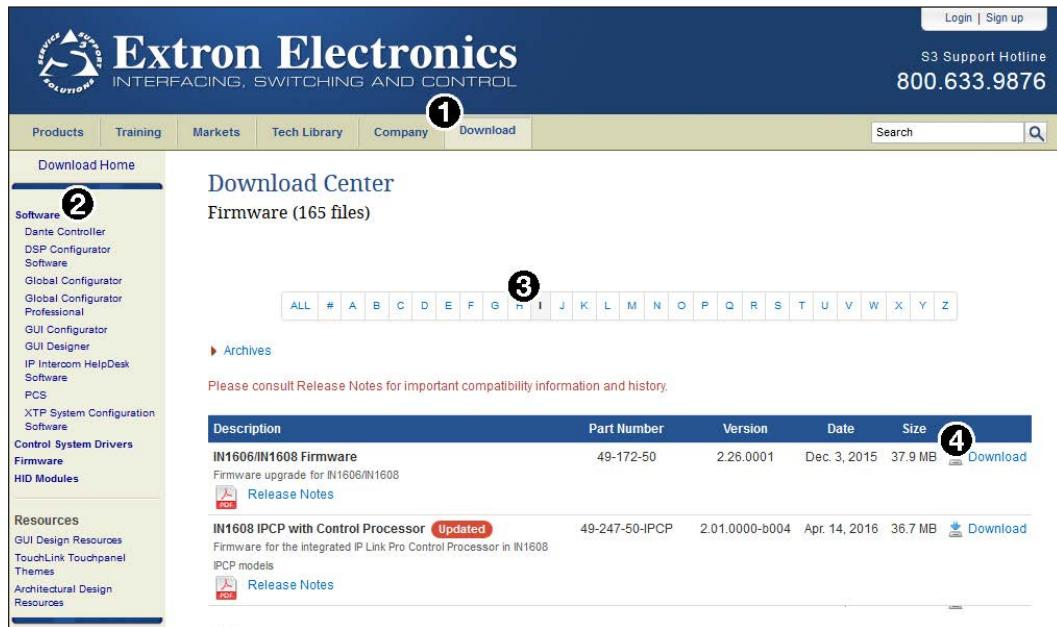

Figure 94. Downloading Firmware from the Extron Website
1. On the Extron website, click the **Download** tab (see figure 94, ①).
2. From the left sidebar, click the **Firmware** link (②).
3. Navigate to the IN1606 or IN1608 model (③).